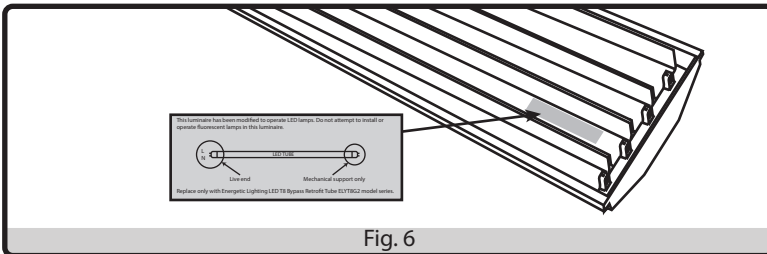

Fig. 6
5. Locate the end of the LED T8 Tube where the "LIVE END" label is printed and ensure that this end of the tube is plugged into the LIVE lampholder socket as shown in Fig. 6. Turn the bulb in the direction such that the heat sink strip faces up into the fixture.